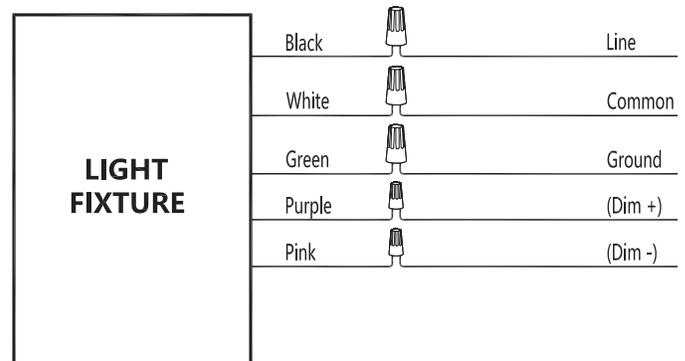

Fig. 6
6. Connect wires as shown in wiring diagram (Fig 6). Push all wires back into the Splice Box. Use appropriate UL-approved wire connectors as required by code to complete wiring. Be careful not to pinch wires. **WARNING: To prevent wiring damage or abrasion, do not expose wiring to edges of sheet metal or other sharp objects.**